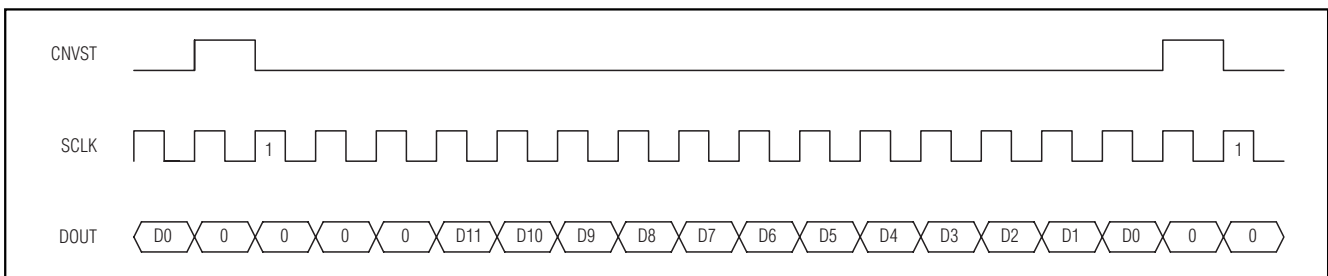
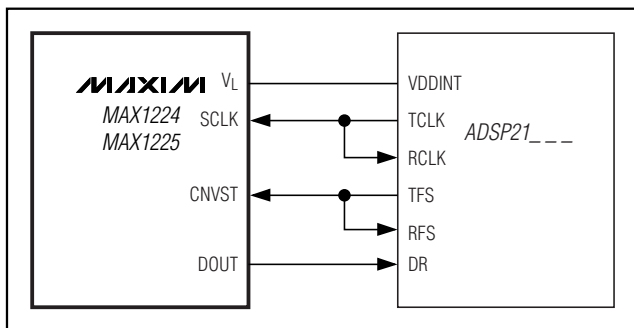

Figure 17. DSP Interface—Continuous Conversion
Figure 19. Interfacing to the ADSP21_--
The MAX1224/MAX1225 can also be connected to the TMS320C54_ by using the data transmit (DX) pin to drive CNVST and the CLKX generated internally to drive SCLK. A pullup resistor is required on the CNVST signal to keep it high when DX goes high impedance and 0001hex should be written to the DXR continuously for continuous conversions. The power-down modes may be entered by writing 00FFhex to the DXR (see Figures 17 and 18).
The MAX1224/MAX1225 can be directly connected to the ADSP21_ _ _ family of DSPs from Analog Devices, Inc. Figure 19 shows the direct connection of the MAX1224/MAX1225 to the ADSP21_ _ _. There are two modes of operation that can be programmed to interface with the MAX1224/MAX1225. For continuous conversions, idle CNVST low and pulse it high for one clock cycle during the LSB of the previous transmitted word. The ADSP21_ _ _ STCTL and SRCTL registers should be configured for early framing (LAFR = 0) and for an active-high frame (LTFS = 0, LRFS = 0) signal. In this mode, the data-independent frame-sync bit (DITFS = 1) can be selected to eliminate the need for writing to the transmit-data register more than once. For single conversions, idle CNVST high and pulse it low for the entire conversion. The ADSP21_ _ _ STCTL and SRCTL registers should be configured for late framing (LAFR = 1) and for an active-low frame (LTFS = 1, LRFS = 1) signal. This is also the best way to enter the power-down modes by setting the word length to 8 bits (SLEN = 1001). Connect the V_L pin to the ADSP21_ _ _ supply voltage when the MAX1224/MAX1225 are operating with a supply voltage higher than the DSP supply voltage (see Figures 17 and 18).